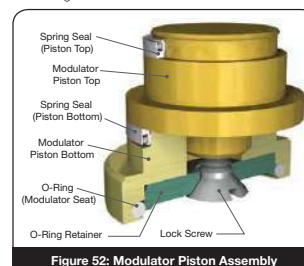

Figure 52: Modulator Piston Assembly
- h. Final Modulator Piston Assembly is shown in Figure 52.